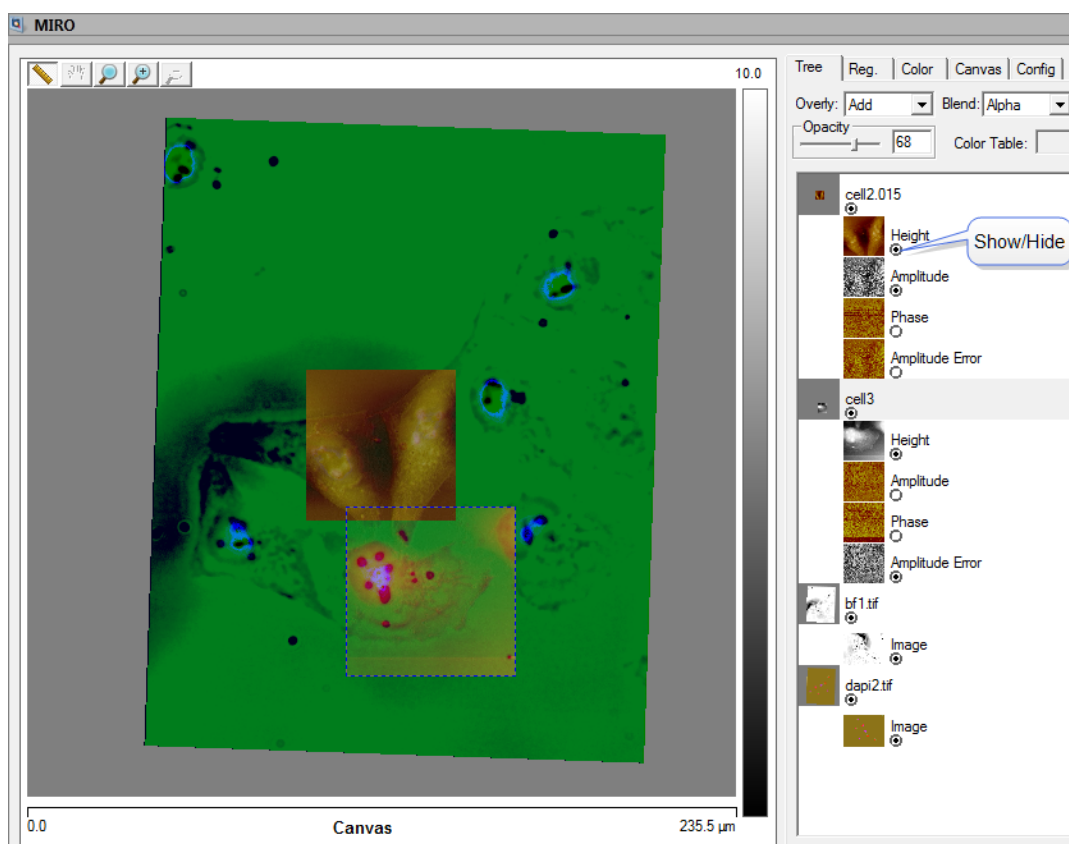

Figure 9.2a: MIRO Canvas with Lines and Buttons selected
- **Show/Hide:** Click the radio button below the image name to show/hide the image (as demonstrated in Figure 9.2a).
- **Lines and Buttons:** The Lines and Buttons function, shown in Figure 9.2a, displays the image tree structure. Clicking a button collapses that portion of the tree.